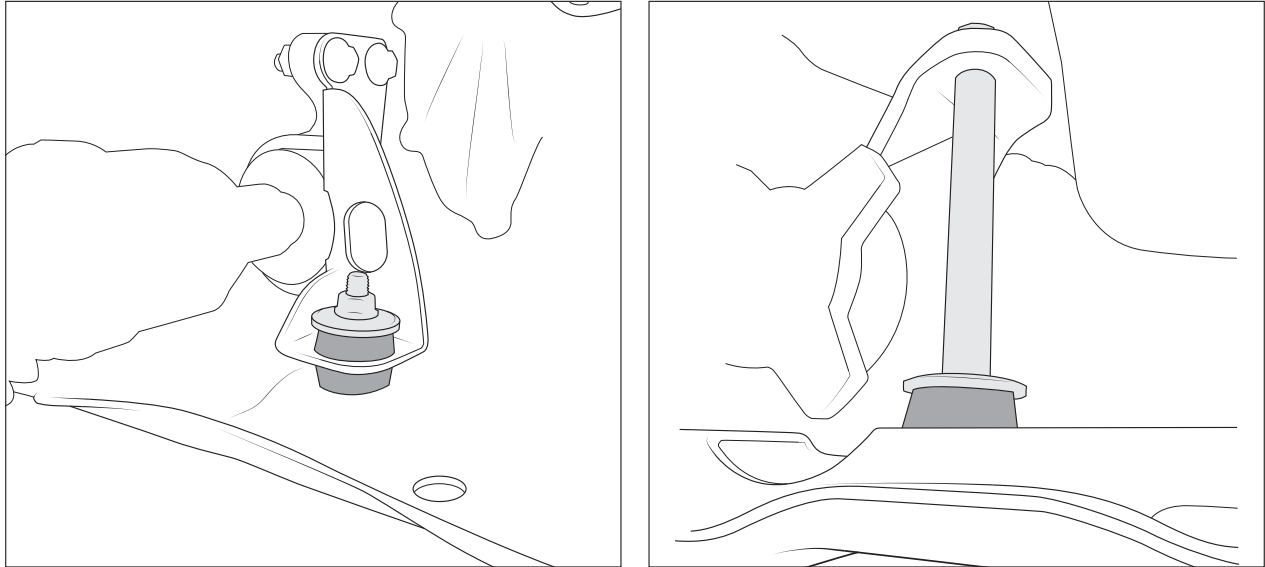

Figure 22
- B. Align front bushings with skidplate holes. Feed M12x70mm bolts up from bottom. Place cupped washer on top of bushings with dish facing downward, then loosely install M12 flange nuts (fig. 22).
- C. Place cupped washer on top of bushing. Raise pinion and place long tube spacer between cupped washer and upper bracket. Slide cupped washer into place below bottom of bushing, then feed M12x-220mm bolt up from bottom of skid, through the cupped washers and sleeve, through tube spacer, and up through pinion bracket. Install flange nut to top of bolt and bracket (fig. 22).